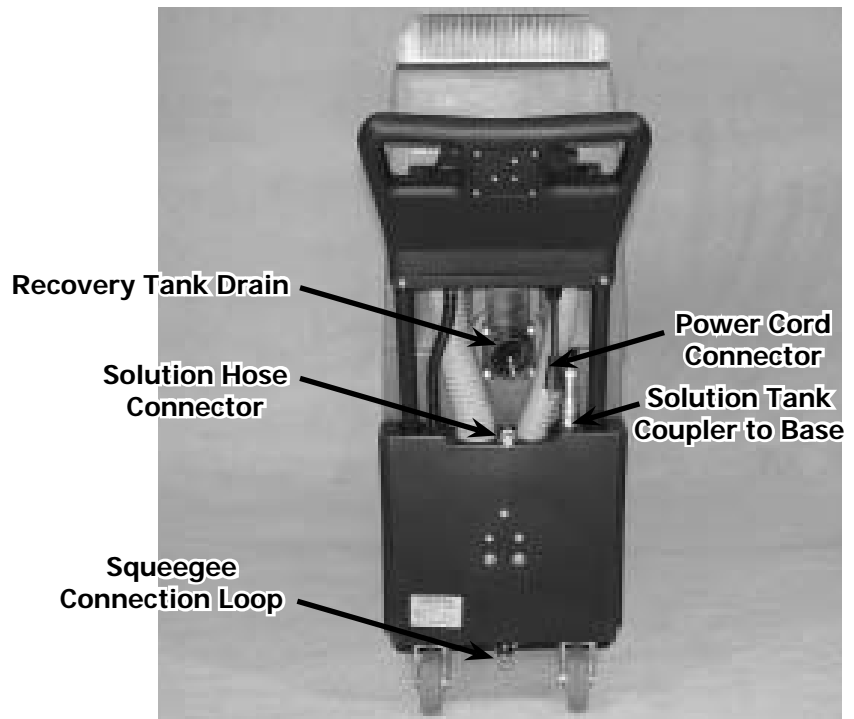

Figure 1. Standard Machine Components
8. Secure the recovery tank lid in place (see Figure 1).